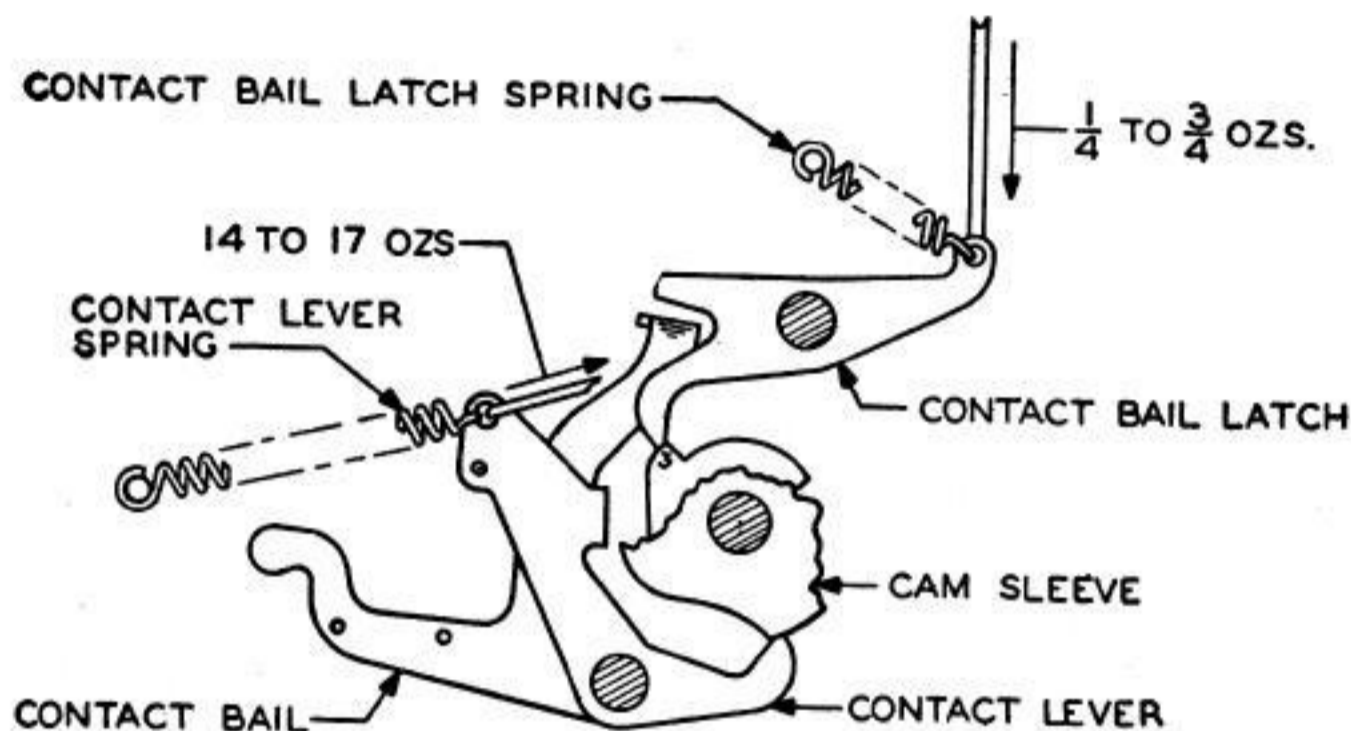

Fig 34
4.05 **Contact-Bail-Latch Spring:** It should require Min 1/4 oz, Max 3/4 oz, to just start the latch moving. **Fig 34**